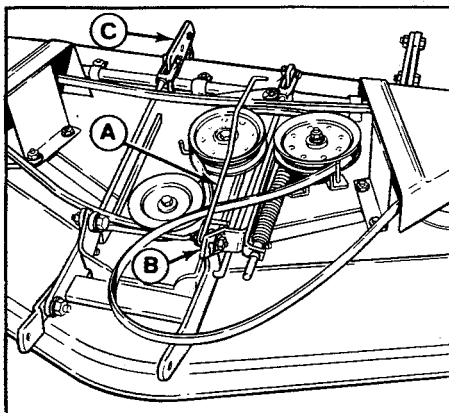
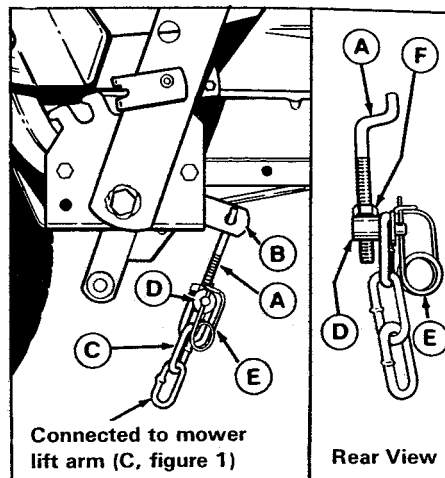

Figure 1. PTO Rod
Figure 2. Lift Chain
2. Notice that one end of the PTO rod (A, figure 1) does not have a drilled hole. Insert this end into the mower PTO arm (B) and work around until rod (A) appears as in figure 1.
that the mower lift arm (C, figure 1) is under the tractor lift arm (B, figure 2).
6. Connect the chain (C, figure 2) to the trunnion (D) with clip (E). For electric lift, use only three links of chain.